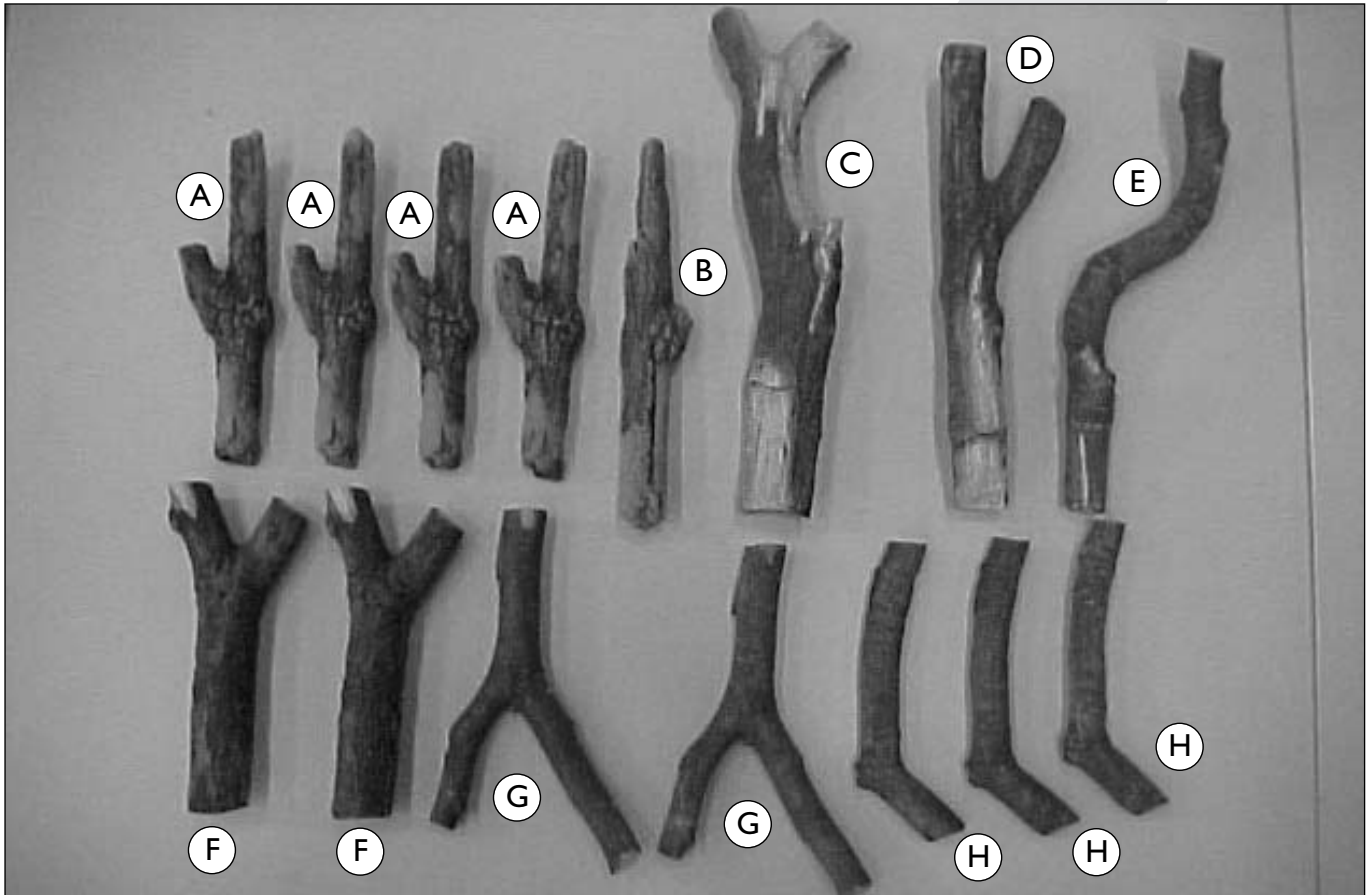
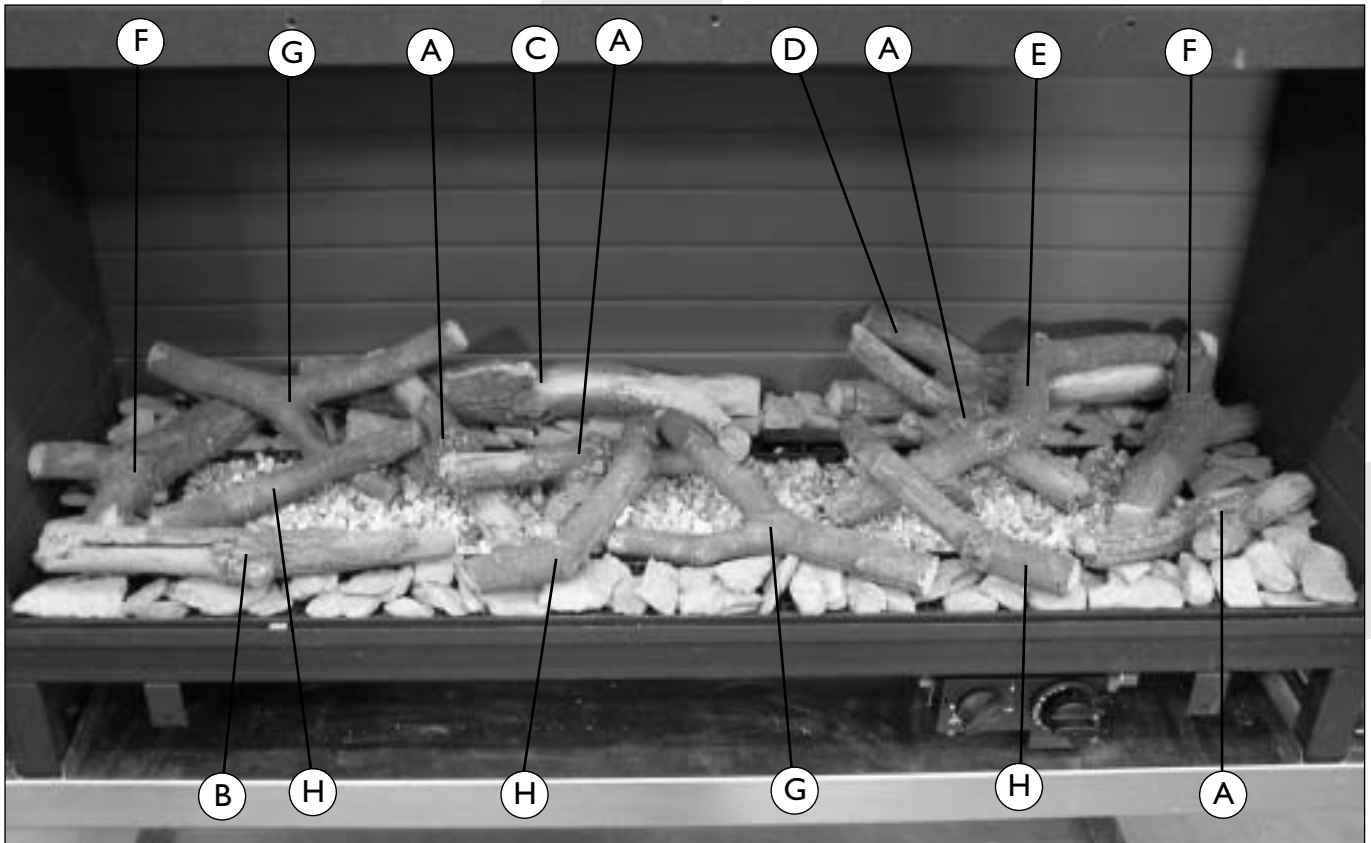

fig. 9
fig. 10
- Position the logs (fig.9) as illustrated (fig.10).